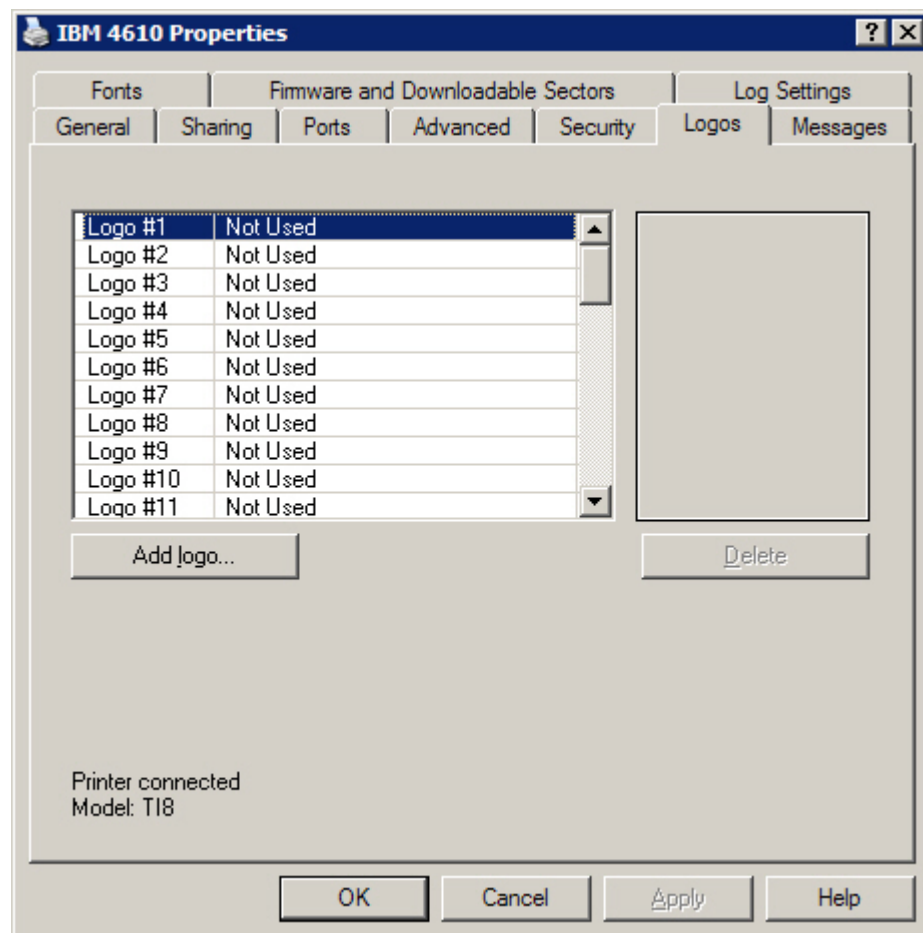

Figure 17. Logos tab
3. Click the **Logos** tab (see Figure 17).